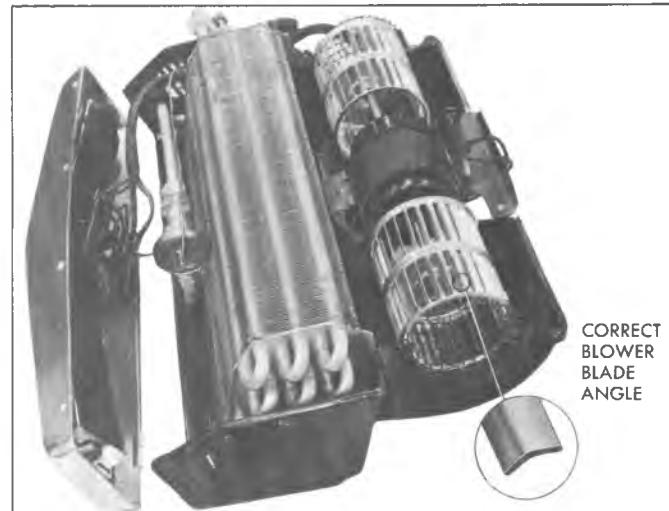

Fig. 96--Blower Assembly (Motor Home Chassis Unit)
### Removal (Fig. 96)
1. Install the blower wheels on the motor so that the lower blades curve toward the dash panel side of the unit when the motor is placed in the case as illustrated in Figure 96. Do not tighten setscrews at this point.